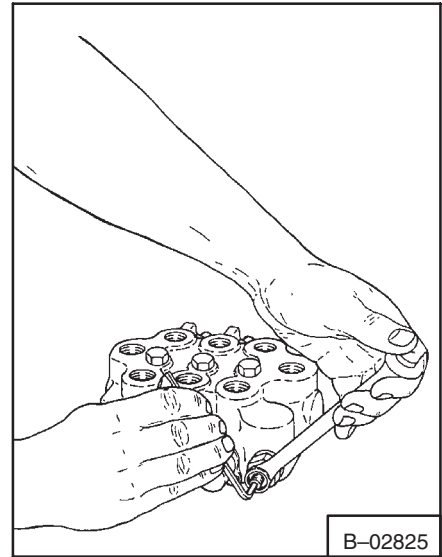

Fig. 2-4 Adjusting Relief Valve
7. Turn the allen screw in to increase the pressure or out to decrease the pressure (Fig. 2-4).